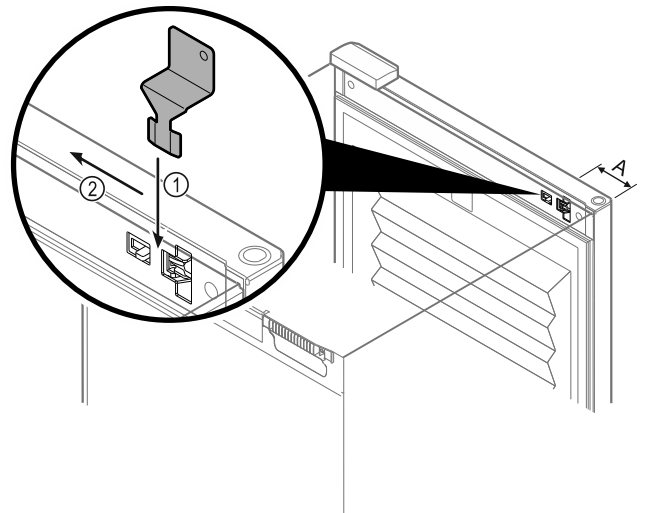

Fig. 138
- Position the emergency unlocking key in the location shown Fig. 138 (A) \approx 100mm.
- Insert the emergency unlocking key from above between the door and the appliance body as far as it will go Fig. 138 (1).
- Drag the emergency unlocking key towards the hinge side Fig. 138 (2).